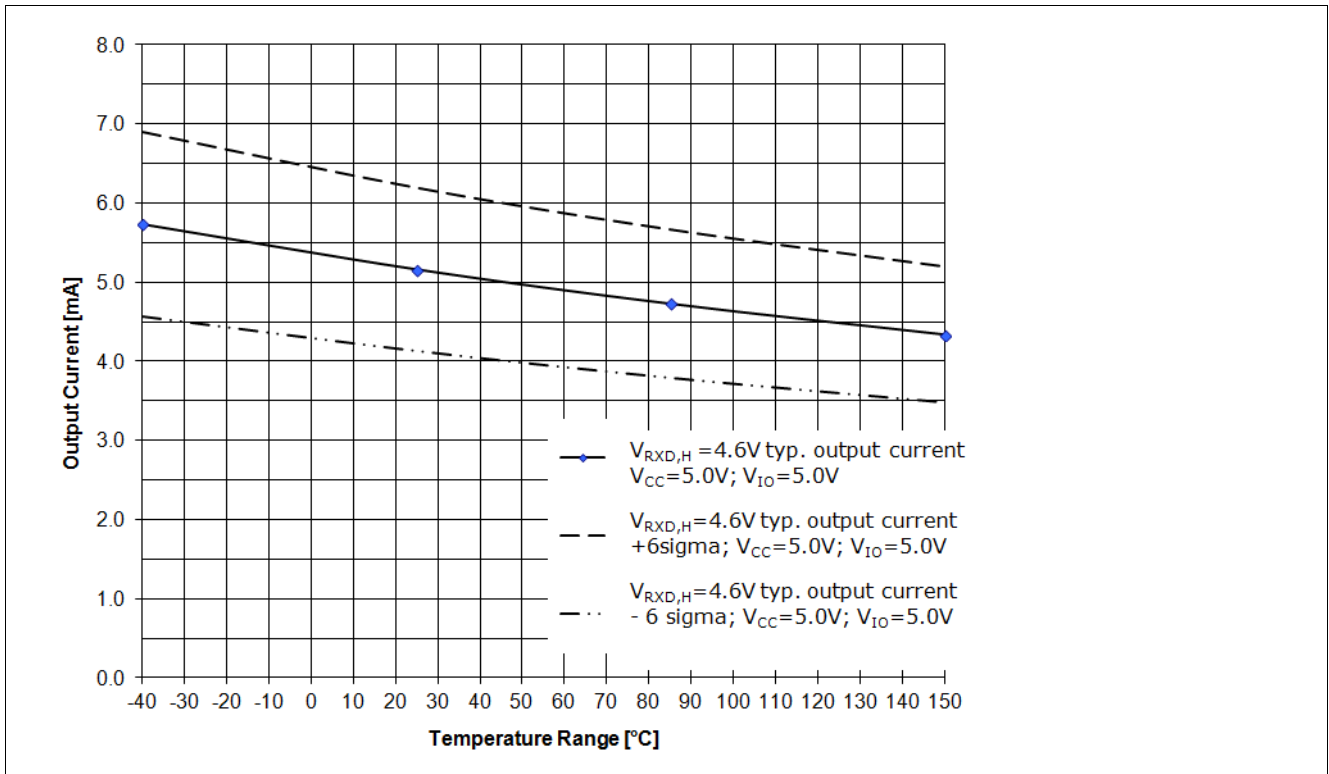
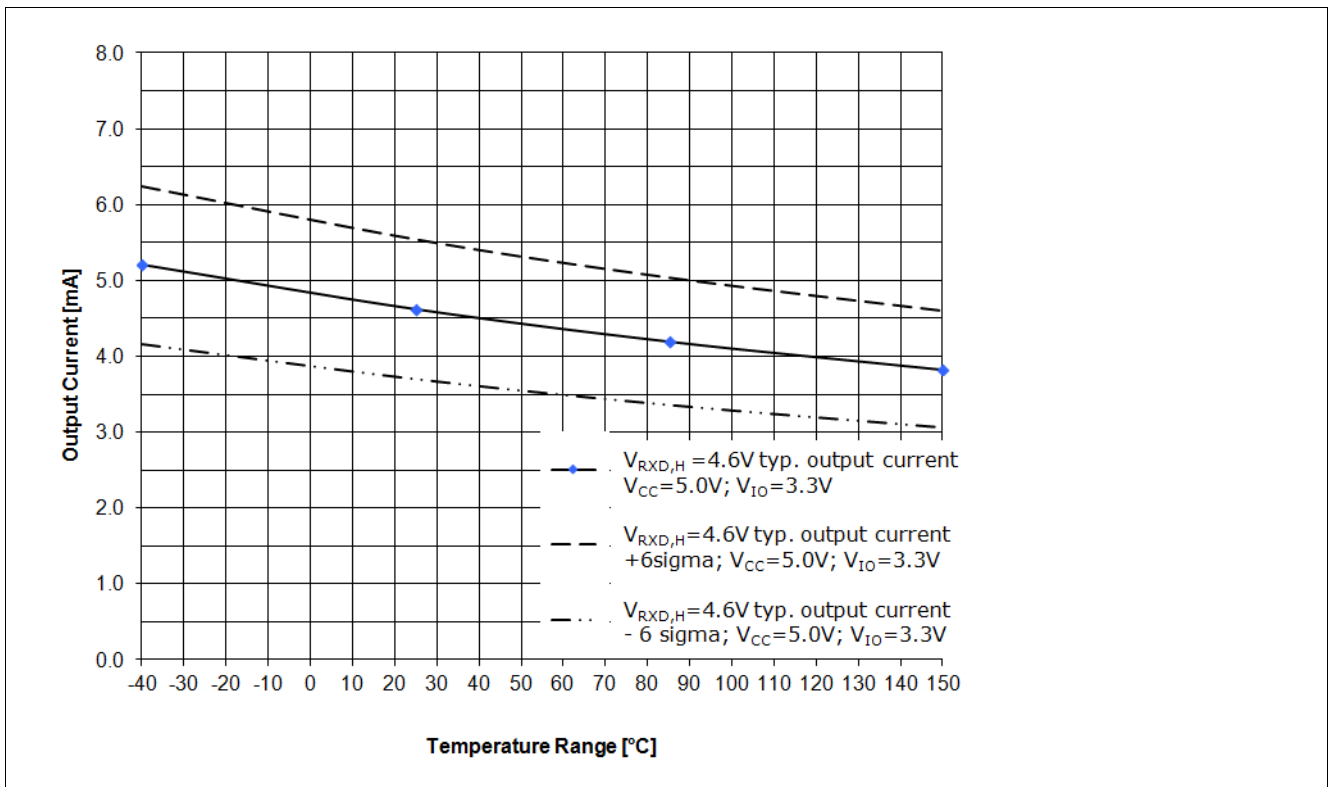

Figure 11 RxD Output driver capability for a logical “High” signal $V_{RxD,H}=4.6\text{ V}$, $V_{CC}=5.0\text{ V}$, $V_{I0}=5.0\text{ V}^{1)}$
Figure 12 RxD Output driver capability for a logical “High” signal $V_{RxD,H}=4.6\text{ V}$, $V_{CC}=5.0\text{ V}$, $V_{I0}=3.3\text{ V}^{1)}$
The diagram in Figure 11 shows the output current capability of the RxD output pin depended on the chip temperature T_J at a V_{IO} power supply of 5.0 V. Figure 12 shows the output current capability of the RxD output pin at a V_{IO} power supply of 3.3 V.
- The curve “ $V_{\text{RxD,H}} = 4.6$ V; **typ. output current**; $V_{\text{CC}} = 5.0$ V; $V_{IO} = 5.0$ V;” displays the typical output current at the RxD output pin of the TLE8250GVIO (see Figure 11).
- The curve “ $V_{\text{RxD,H}} = 4.6$ V; **typ. output current + 6 sigma**; $V_{\text{CC}} = 5.0$ V; $V_{IO} = 5.0$ V;” displays the expected maximum value of the output current at the RxD output pin (see Figure 11).
- The curve “ $V_{\text{RxD,H}} = 4.6$ V; **typ. output current - 6 sigma**; $V_{\text{CC}} = 5.0$ V; $V_{IO} = 5.0$ V;” displays the expected minimum value of the output current at the RxD output pin (see Figure 11).
- The curve “ $V_{\text{RxD,H}} = 4.6$ V; **typ. output current**; $V_{\text{CC}} = 5.0$ V; $V_{IO} = 3.3$ V;” displays the typical output current at the RxD output pin of the TLE8250GVIO (see Figure 12).
- The curve “ $V_{\text{RxD,H}} = 4.6$ V; **typ. output current + 6 sigma**; $V_{\text{CC}} = 5.0$ V; $V_{IO} = 3.3$ V;” displays the expected maximum value of the output current at the RxD output pin (see Figure 12).
- The curve “ $V_{\text{RxD,H}} = 4.6$ V; **typ. output current - 6 sigma**; $V_{\text{CC}} = 5.0$ V; $V_{IO} = 3.3$ V;” displays the expected minimum value of the output current at the RxD output pin (see Figure 12).